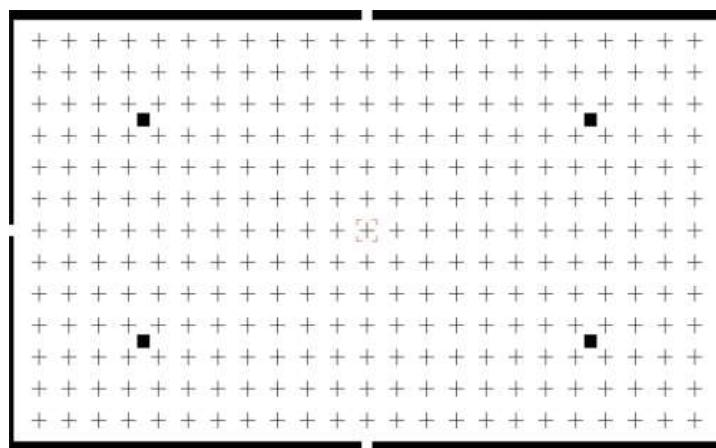

Figure 71. Distortion Test Chart
4. Slide the TE251 Distortion Test Chart (see Figure 71) in front of the Test Chart Illuminator and center the Test Chart with the camera. The image shown in Figure 71 should appear on the monitor when the camera is horizontally and vertically centered with the Test Chart.